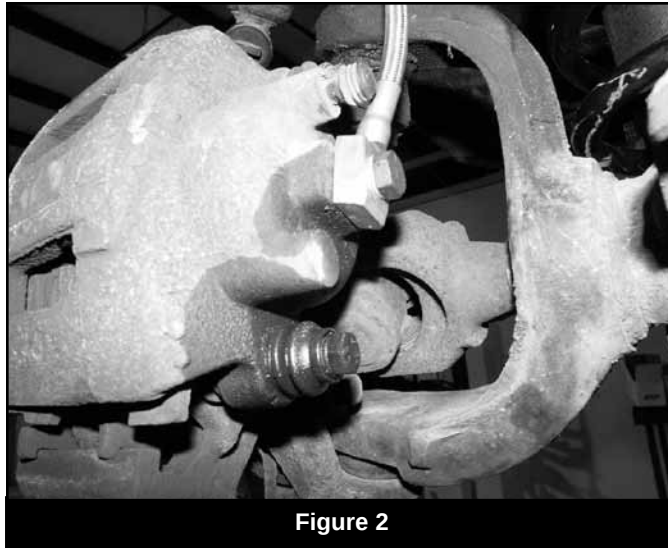

Figure 2
*Note: One washer is required on EACH side of the fitting. Brake line must face up after installation. (Fig 2) Torque bolt to 20 ft-lbs.*